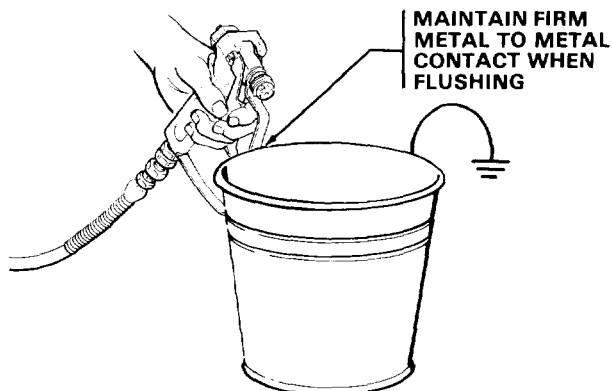

Fig 10
- e. Point the gun into a metal pail and hold a metal part of the gun *firmly* against the pail. See Fig 10.